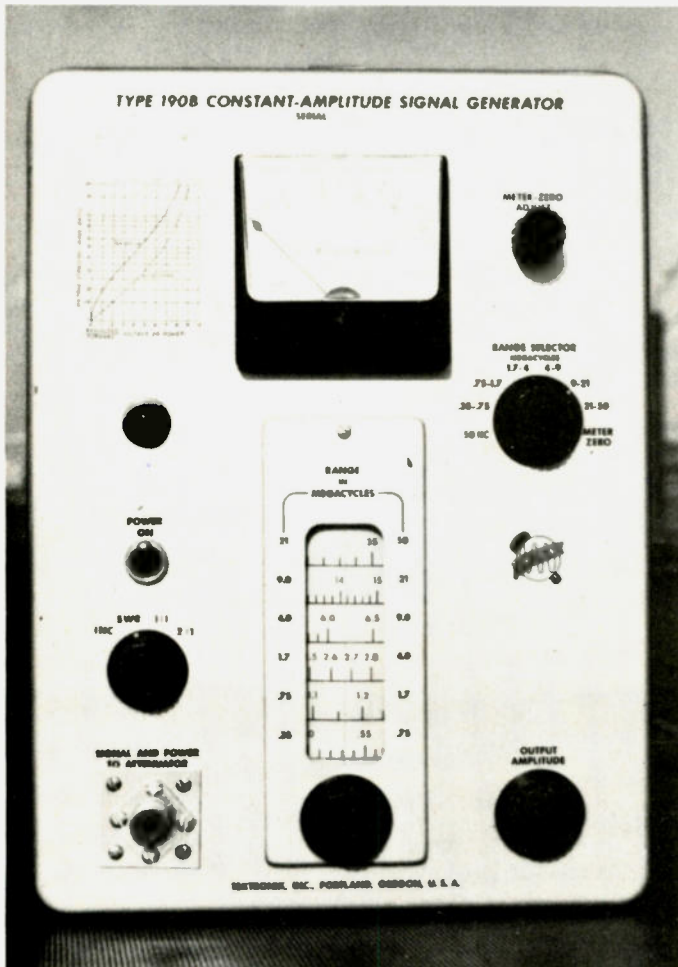
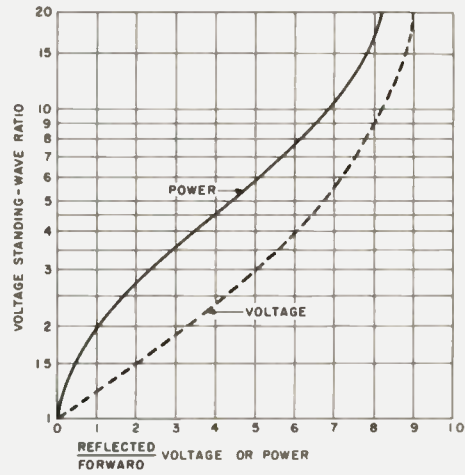

Fig. 1. Completed vswr bridge using modified Tek 190B generator.
Fig. 4. Chart for finding vswr when ratio of reflected to forward voltage is known.
2. Drill a 5/16-inch-diameter hole midway between the power switch and the SO-239 rf connector. Refer to Fig. 1. This hole will be for the vswr function switch. (See schematic for parts list.)
10. If desired, the existing meter can be replaced (Fig. 1), but it's not necessary. I changed mine because of the scale markings.
12. A chart for determining vswr is shown in Fig. 4. Copy it or cut it out and tape it to your unit. See Fig. 1. Calibration is simple. After the unit is complete, turn it on. Do not have a load connected to the coax connector. Adjust the incident voltage (INC) for full scale, then switch to the SWR position. The meter should read the same in each position. If it doesn't, trim RX until the meter reads the same. Now, switch to the 1:1 position. The meter should fall to zero, indicating a balanced 50-Ohm load into the bridge. Switch the meter should read approxi-